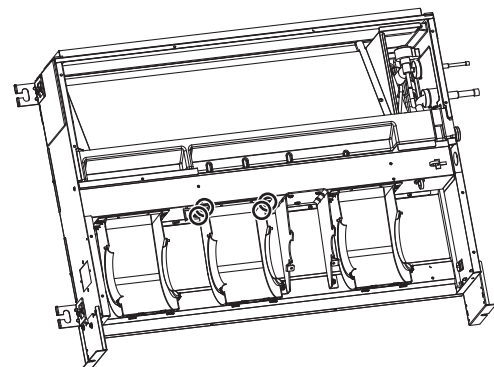

Fig.14
- (3) Remove the fan case fixing screws to take the top half of the fan casing off. (Fig. 14)